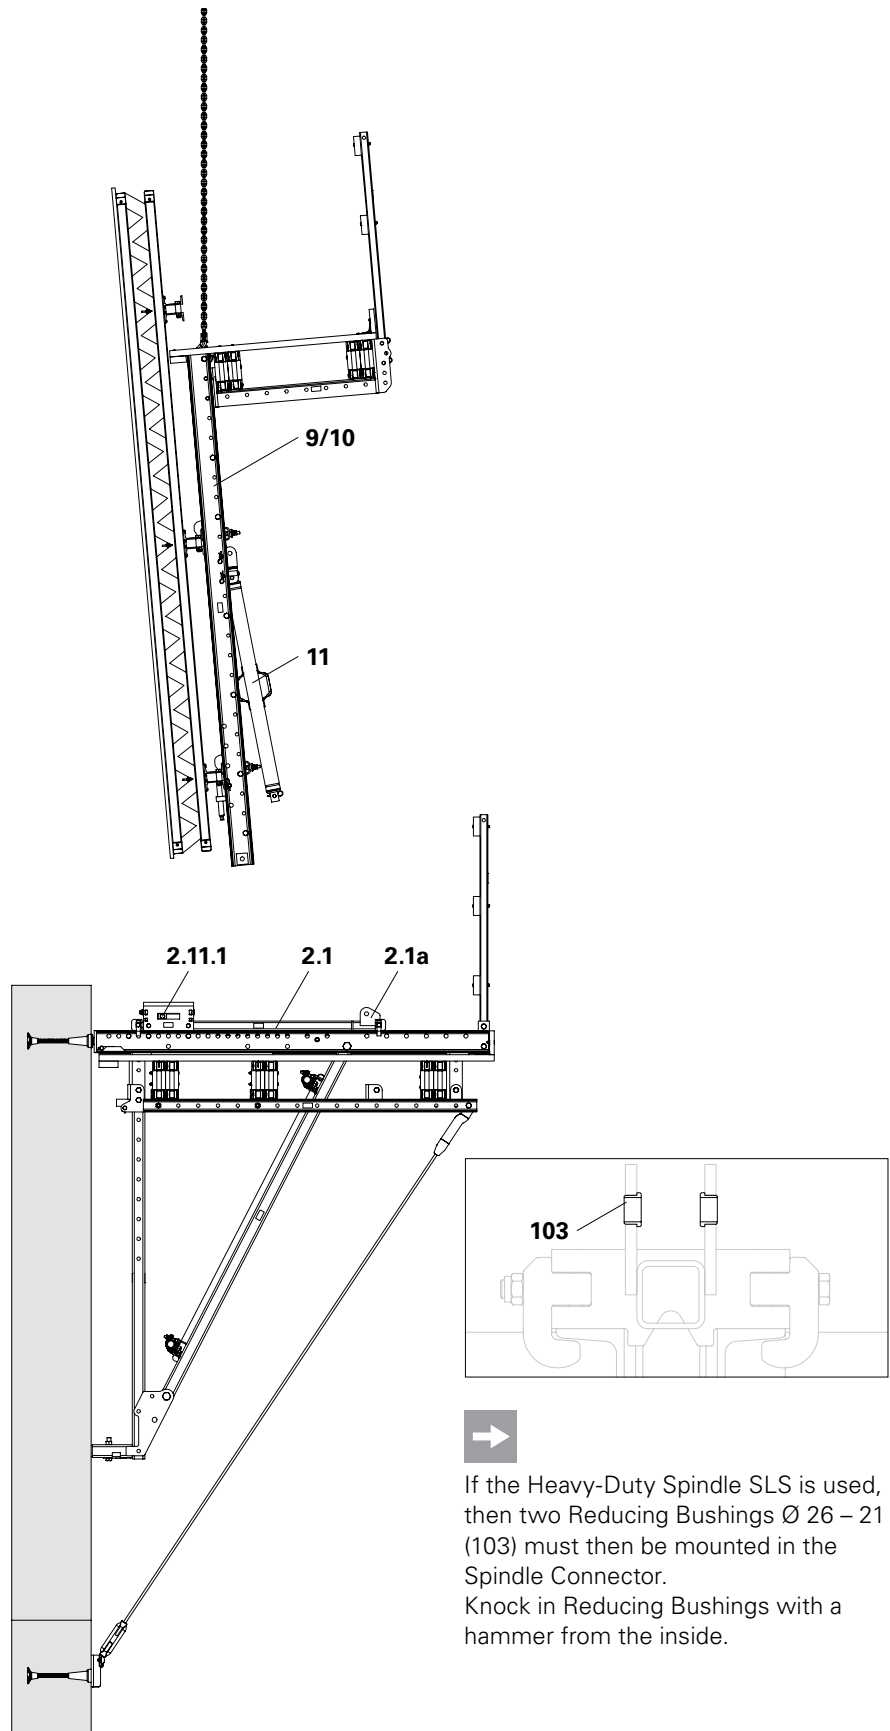

Fig. B3.04
3. Adjust the Heavy-Duty Spindle SLS (11) to the required length and mount on the Strongback using locking pin \varnothing 21 mm.
6. If necessary, Reducing Bushings \varnothing 26 – 21 (103) must then be mounted.
7. Vertically position the formwork, move Heavy-Duty Spindle (11) into the Spindle Connector SCS (2.1a) and mount using locking pins \varnothing 21 mm.
9. Align formwork (see Section B4). (Fig. B3.04)